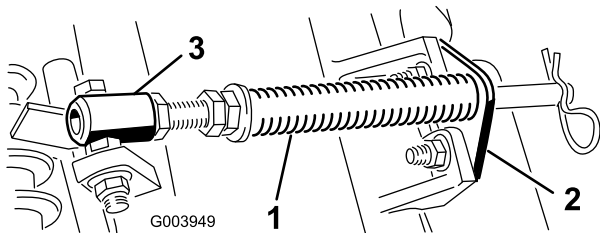

Figure 5
- A. Remove the 2 carriage bolts and nuts securing the rod bracket to the cutting unit tabs (Figure 5).
- B. Remove the flange nut securing the spring tube capscrew to the carrier frame tab (Figure 5) Remove the assembly.